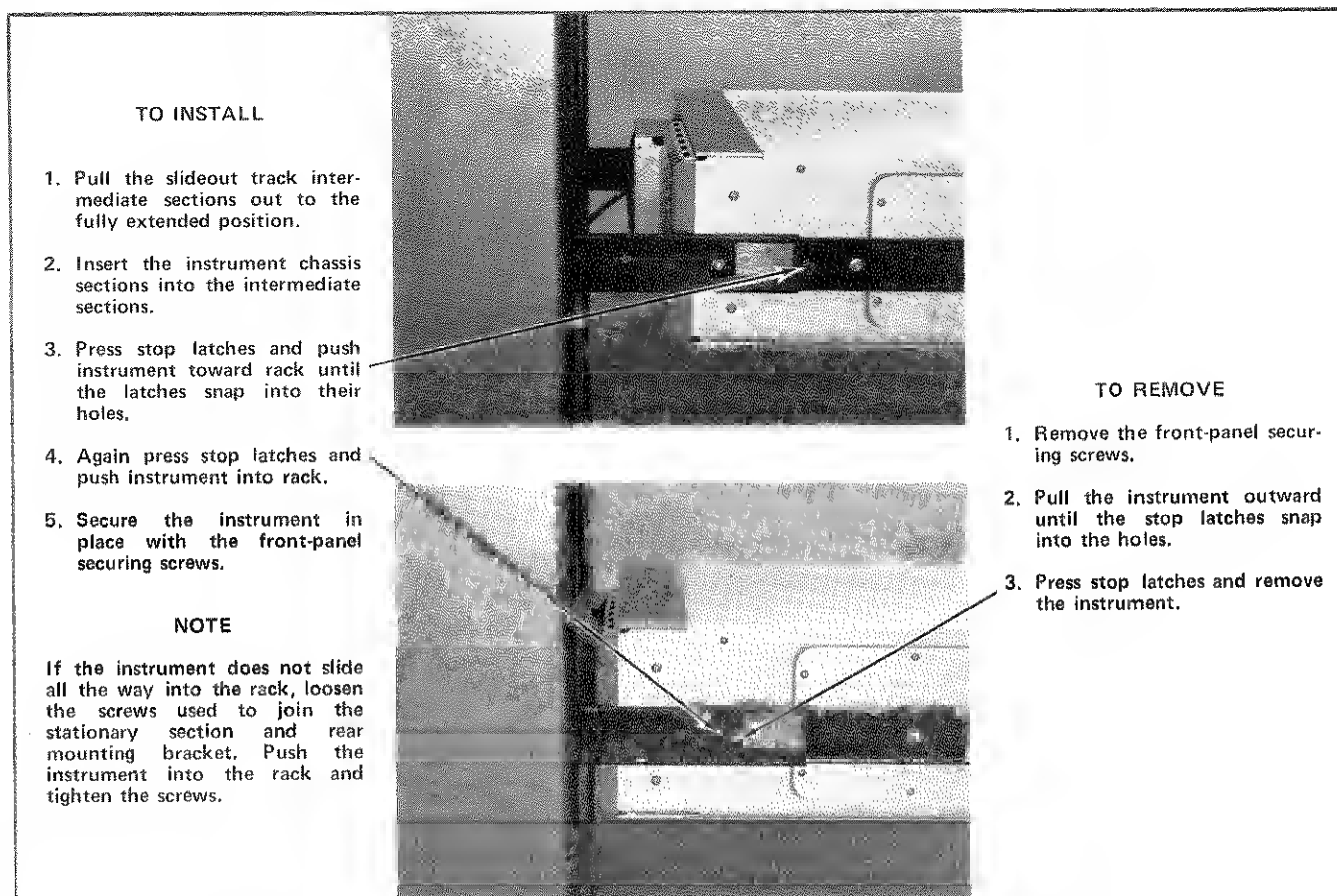

Fig. 3-4. Installing and removing the instrument after the tracks have been installed.
4. Refer to Fig. 3-4 to install the instrument into the rack.
After initial installation and adjustment of the slide-out tracks, the instrument can be removed or installed by following the instructions given in Fig. 3-4. No further adjustments are required under normal conditions.